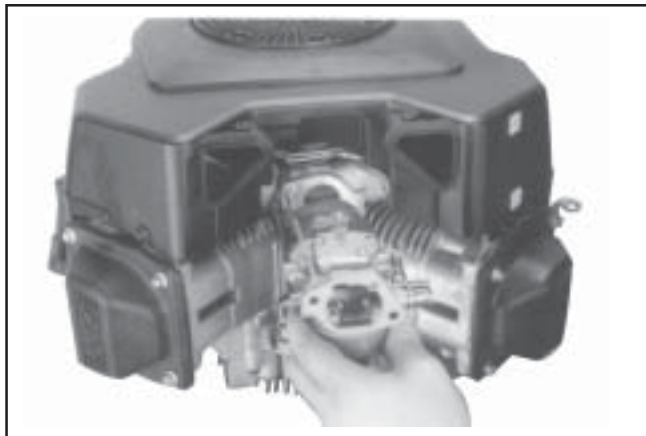
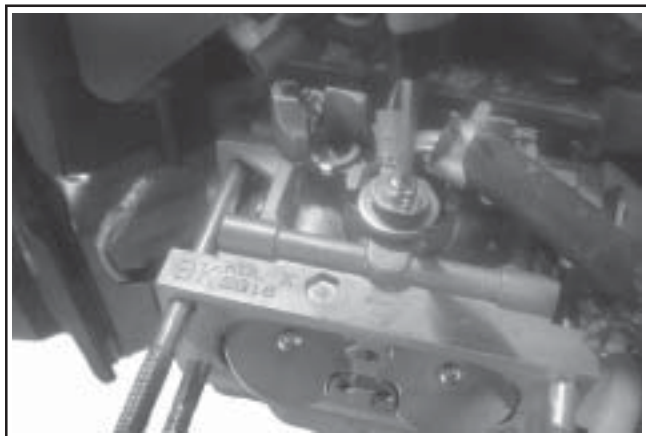

Figure 11-67. Installing Carburetor, Throttle Linkage, and Governor Lever.
Figure 11-69. Installing External Governor Controls.
2. Install the carburetor, throttle linkage, choke linkage, and governor lever as an assembly. See Figures 11-67 and 11-68. If a plastic intake manifold is used and/or the carburetor is equipped with a fuel solenoid, reconnect the ground and main leads. See Figure 11-69.